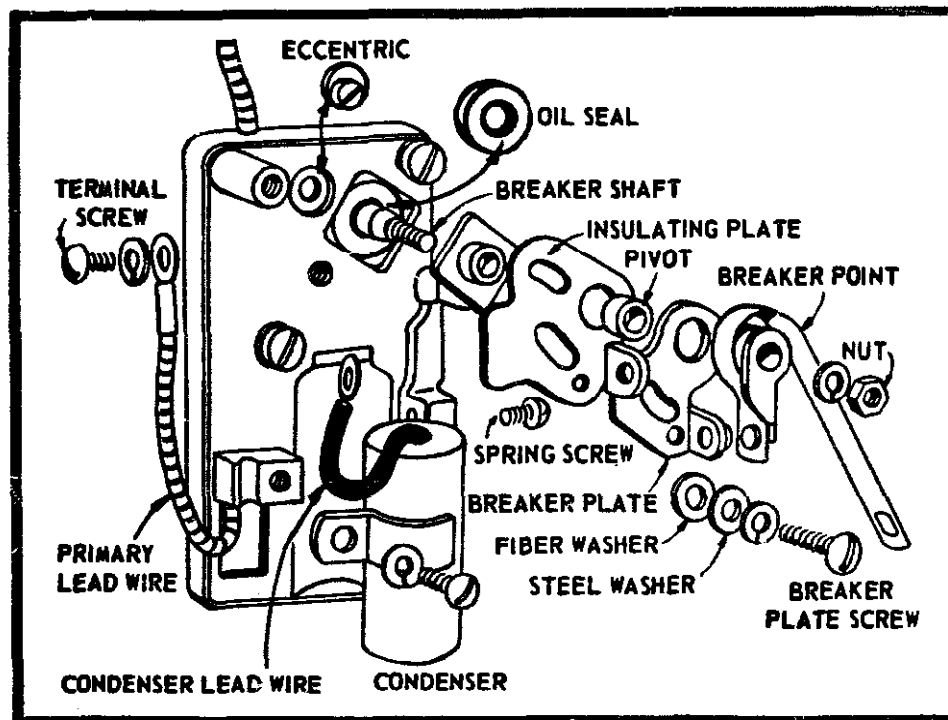
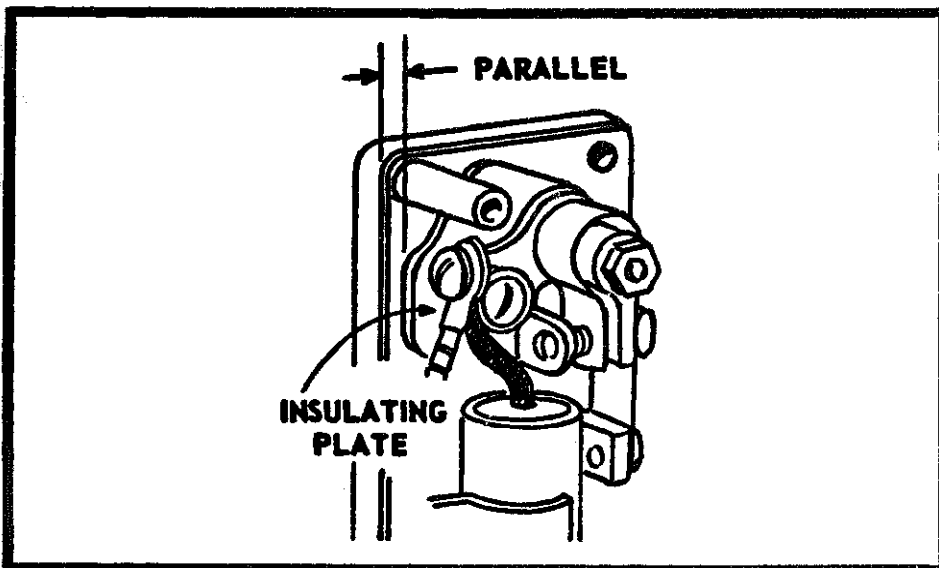

Fig. 2-16. Disassembly procedure for the Magna-Matic. (Courtesy Briggs & Stratton Corp.)
Fig. 2-18. Insulating plate should be parallel with the left-hand edge of breaker box. (Courtesy Briggs & Stratton Corp.)
Points. Remove the dust cover and rotate the crankshaft to open the points to their maximum extension (this step will save time upon reassembly). Become familiar with the disassembly procedure illustrated in Fig. 2-16 before proceeding as follows:
- Turn the eccentric screw (Fig. 2-16) to bring the left hand edge of the breaker plate parallel with the left side of the breaker box (Fig. 2-18).